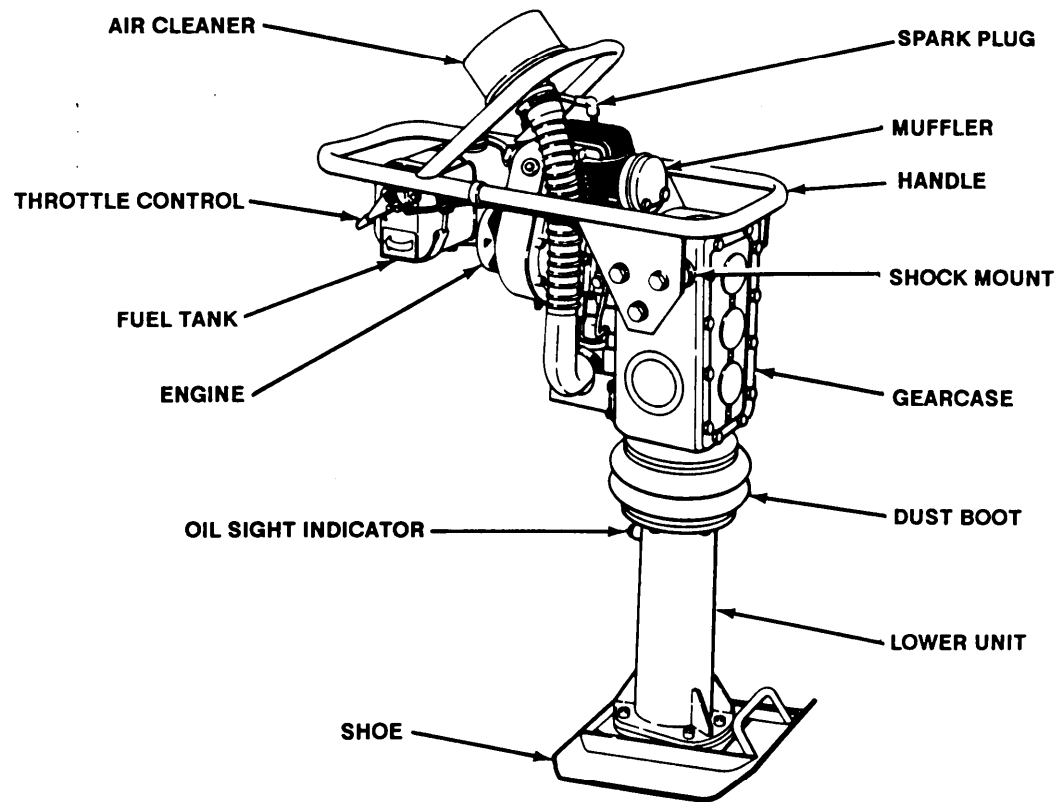

Figure 1-1. Location of Major Components (VR11C).
- Refer to Figure 1-1, Locating Major Components (VR11C), for location of major components.